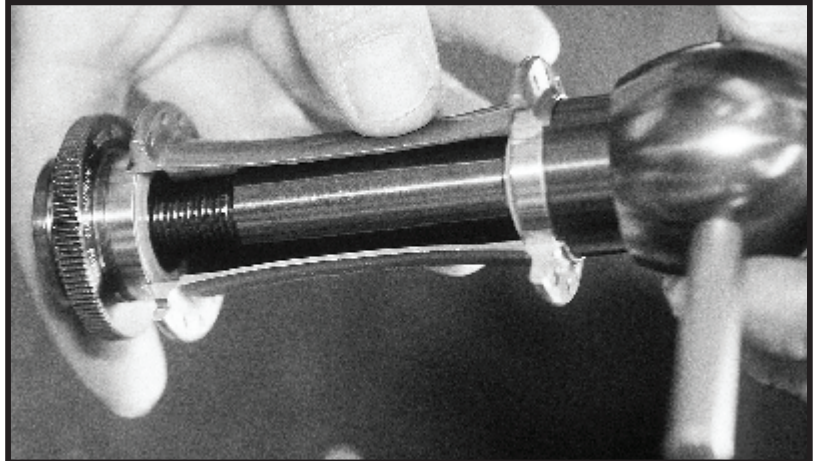

Figure 19 - press front hub shell bearings
4. Pass T-handle with bearing through installation side of hub shell and thread into knurled ring. Continue turning T-handle to press bearing until it is firmly seated. (See figure 19.) Loosen T-handle, turn knurled ring 180° and tighten T-handle to press bearing again. (This assures the bearing is seated flatly.)